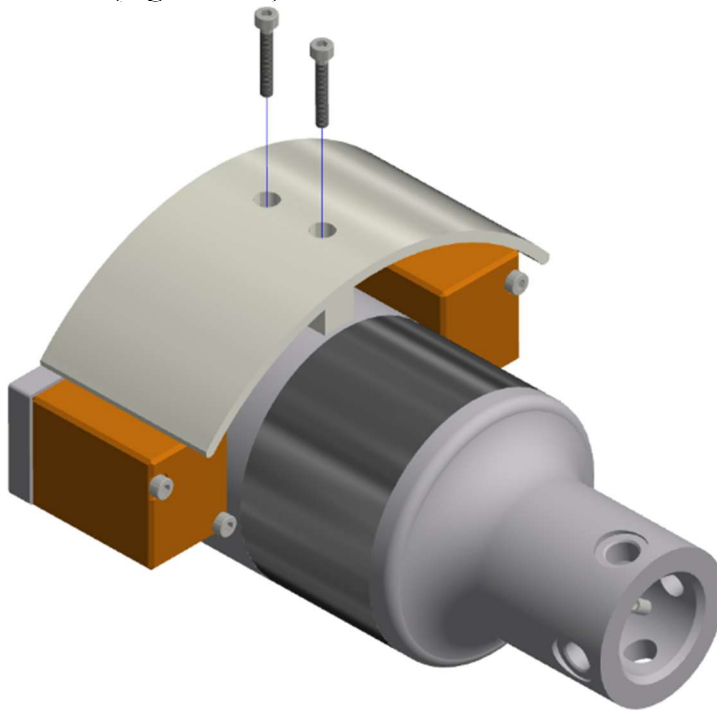

Figure 9-28. Remove the Cable Connector Guard (474-5107) by removing two M3 X 0.5 X 20 LG. SHCS
9.2.20 Remove the Cable Connector Guard (474-5107) by removing two M3 X 0.5 X 20 LG. SHCS (Figure 9-28).